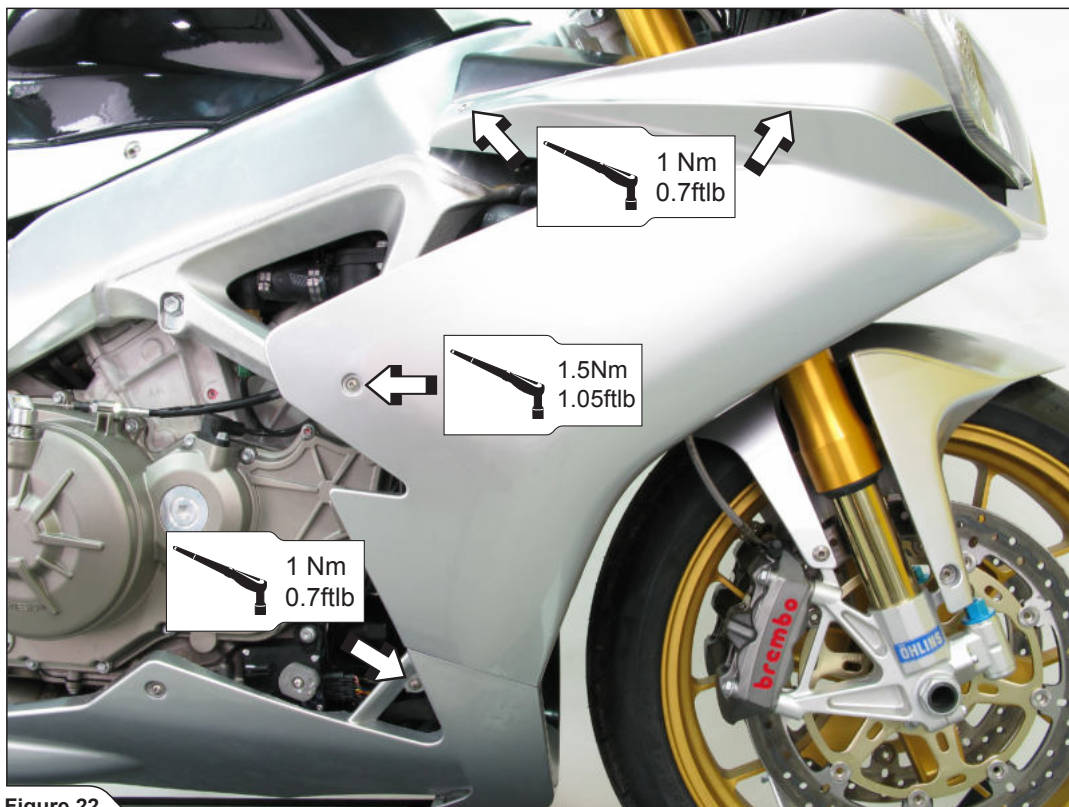

Figure 22
12. Attach the cowlings in the reverse order from the order in which they were removed (Figure 22, 23).